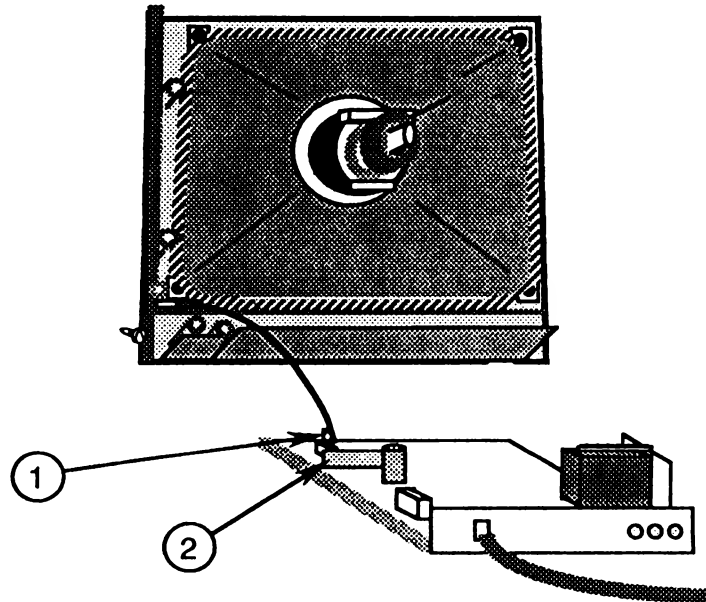

FIGURE 19
9. Disconnect the LED cable (Figure 19, #1) from the small, vertically mounted video PCB attached to the main logic PCB (Figure 19, #2).